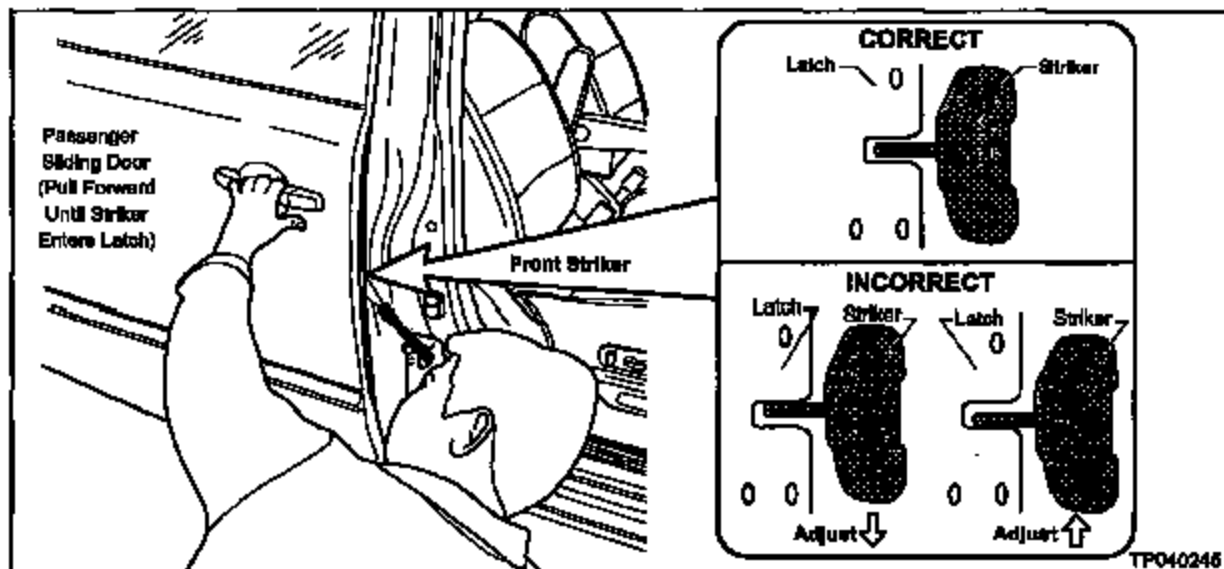

Figure 20 (Front Striker)
16. Check and adjust the Sliding Door Front Striker/Latch clearance and Dovetail clearance to ensure proper engagement (see Figure 20).